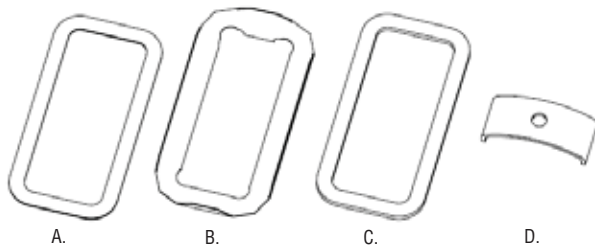

Figure 1: Kit Parts
2. Peel off the protective tape on one side of thin gasket (Figure 1, Part A) and attach to the front side of the adapter (Part B). Refer to Figure 1.
3. Peel off the protective tape on other side of gasket (Figure 1, Part A) and place aerator on gasket. Upturned edges on adapter will prevent aerator from turning in the bin.
4. Peel off the protective tape on the thick gasket (Figure 1, Part C) and attach to back side of adapter. Longer legs on this side of adapter keep adapter from turning when placed in bin wall hole.
6. Slip clamp (Figure 1, Part D) over tank nipple with legs toward aerator and thread on brass locking nut.